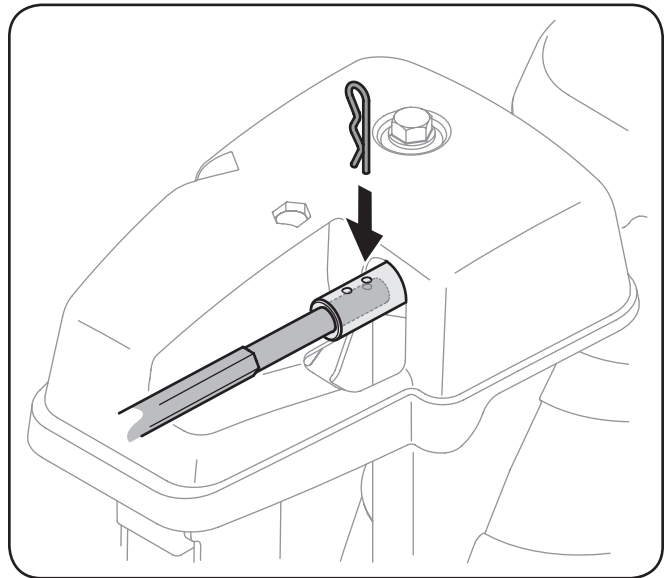

**Figure 3-8**
- Insert the chute control rod into the pinion gear below the joystick. Make sure to line up the hole in the rod with the arrow on the pinion gear. See Figure 3-8.